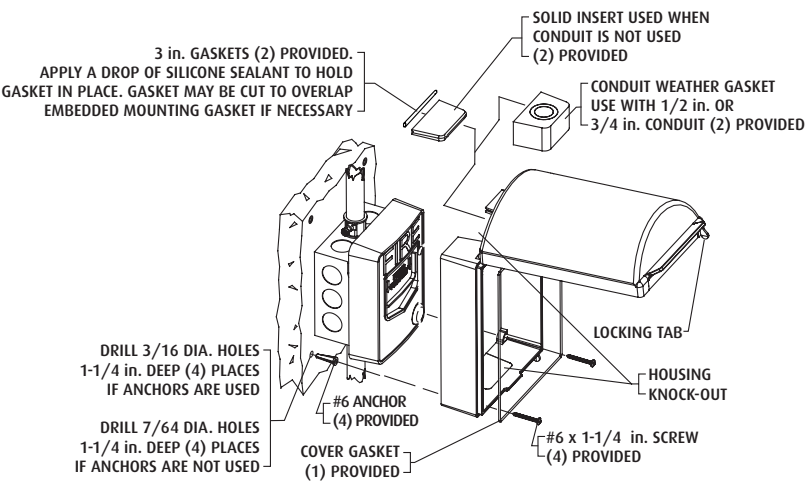

Fig. 4 - SURFACE MOUNTING OPTION
6. (For the SURFACE mounting option only) Note that the inserts fit flush to the housing only in one orientation (see Fig. 4). Prior to applying either of the Conduit Weather Gaskets, ensure proper orientation and fit of the desired inserts from the top or the bottom of the housing.